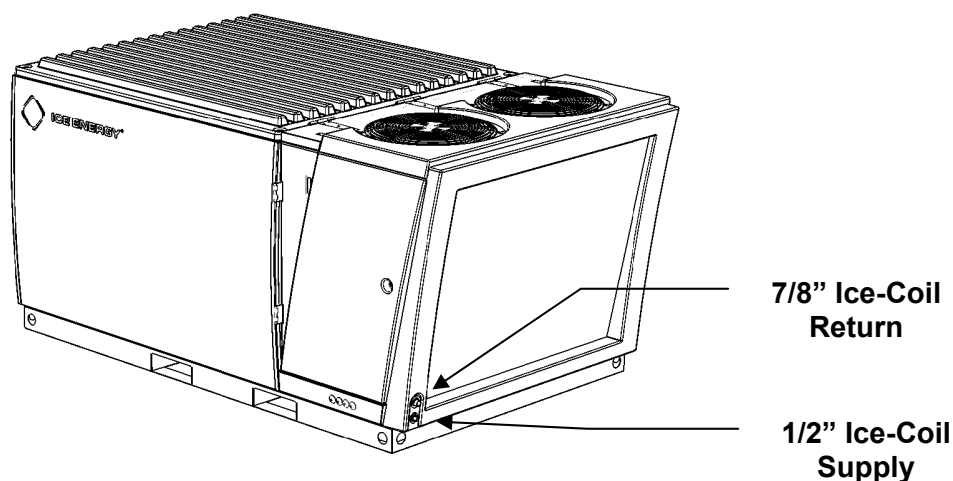

Figure 22 – Refrigerant Piping Connection Points
3. Using refrigerant grade type L (ACR) copper, connect the 1/2" ICE-COIL supply line to the ICE BEAR UNIT's ICE-COIL supply line (reference Figure 22).
5. Connect the 7/8" ICE-COIL return line to the ICE BEAR UNIT's ICE-COIL return line (reference Figure 22).